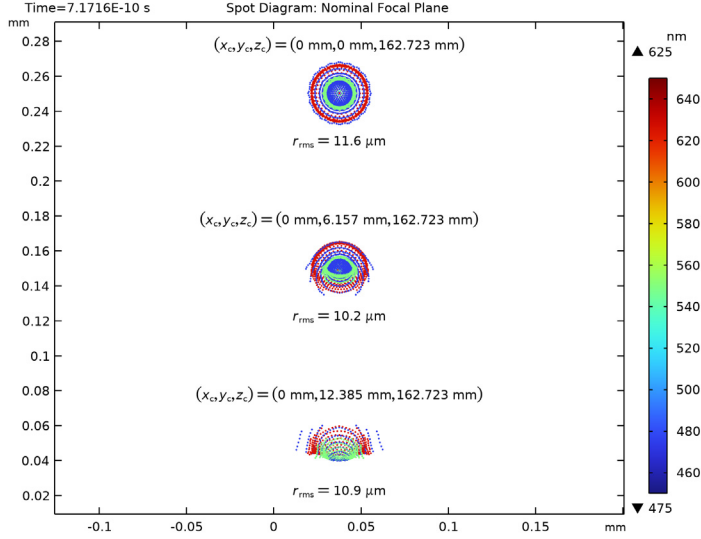
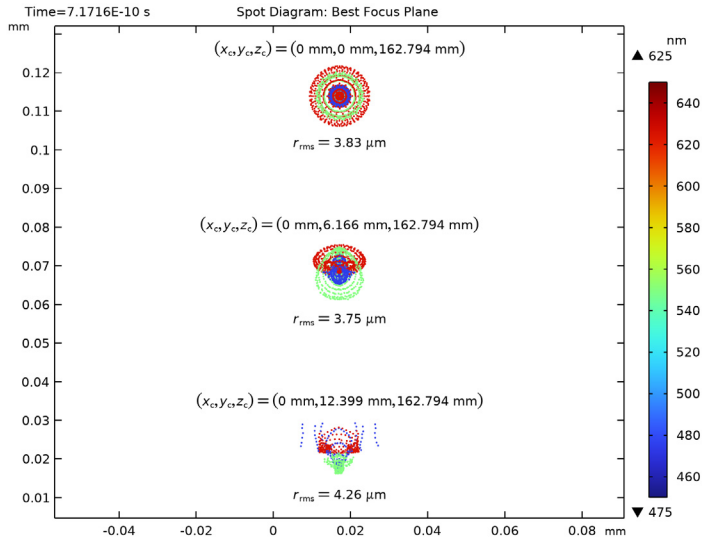

Figure 5: The image quality on the nominal image surface. This is the detector surface after being subject to thermal expansion.
Figure 6: Image quality on the best focus plane. That is, this is the surface that gives the minimum RMS spot size on-axis.
The image quality on the nominal and “best focus” image planes is shown in Figure 5 and Figure 6. When compared with a model not using hyperelastic effects (that is, Petzval Lens STOP Analysis) it can be seen that the image planes are shifted by $3\ \mu\text{m}$ and $2\ \mu\text{m}$ when comparing the nominal and best focus image planes respectively. This suggests that the hyperelastic material properties have a small, but not insignificant impact on the model.
Click the  **Zoom Extents** button in the **Graphics** toolbar. The nominal image surface spot diagram should look like Figure 5.
- 7 Click the  **Zoom Extents** button in the **Graphics** toolbar. The best focus spot diagram should look like Figure 6.